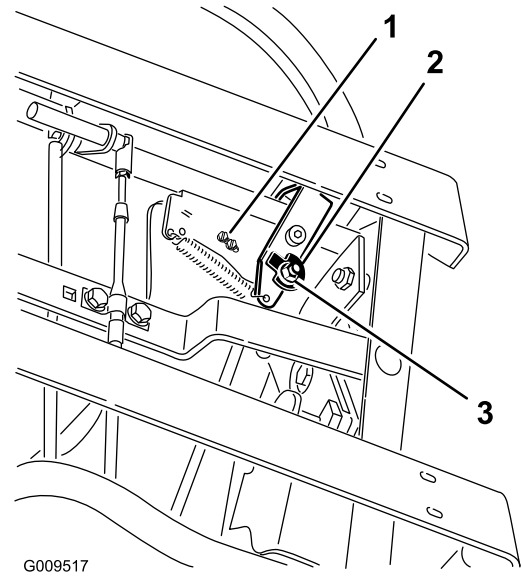
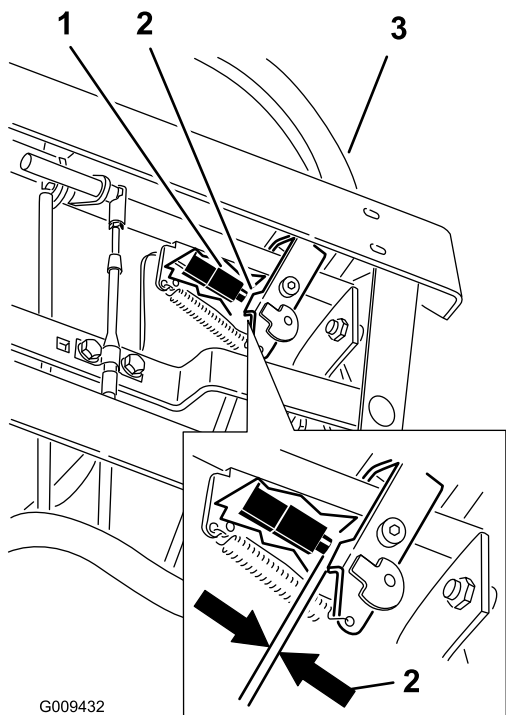

Figure 64
Figure 65
7. Loosen the nut and bolt holding the cam (Figure 64).
10. Check the gap between the control lever and switch as shown in Figure 65. The gap needs to be an 1/8 inch (3mm) with the right motion control lever in the neutral, unlocked position.
11. If needed, loosen the screws holding the switch and adjust the switch (Figure 64 and Figure 65).